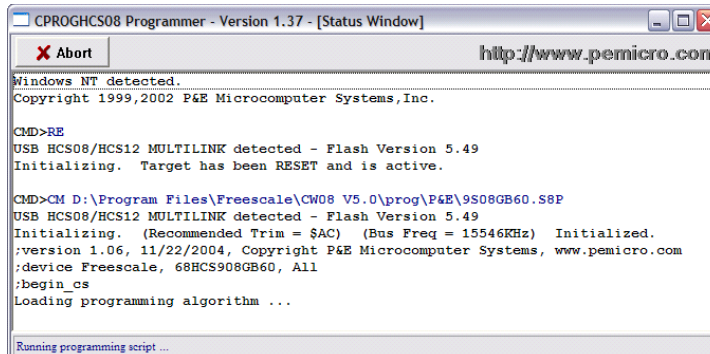

Figure 39. Status Window
- The Status window appears as shown in Figure 39. This window shows the download progress if the connection is working.